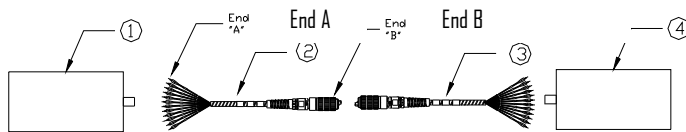

FIGURE A-3 - REFERENCE MEASUREMENT (P₁)
- iv. RECORD THE OPTICAL POWER AS P₁ (SEE FIGURE A-3)